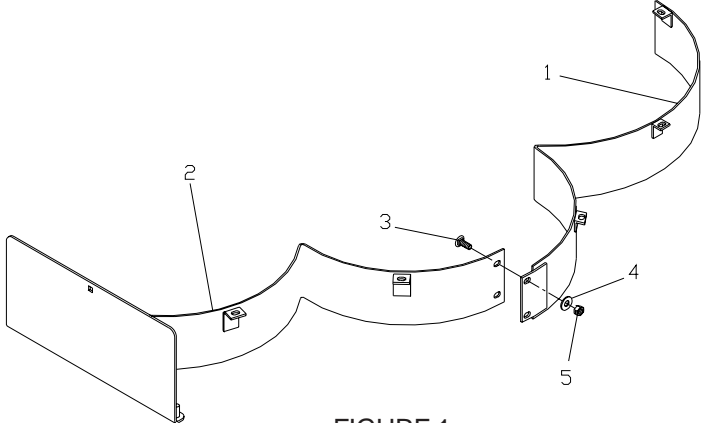

FIGURE 1
Step 2: In the kit there are two baffle sections (item 1 and 2). Bolt the two sections together in the front using two of the carriage bolts provided. (see fig. 1) NOTE: Position the fasteners as shown in fig. 1.